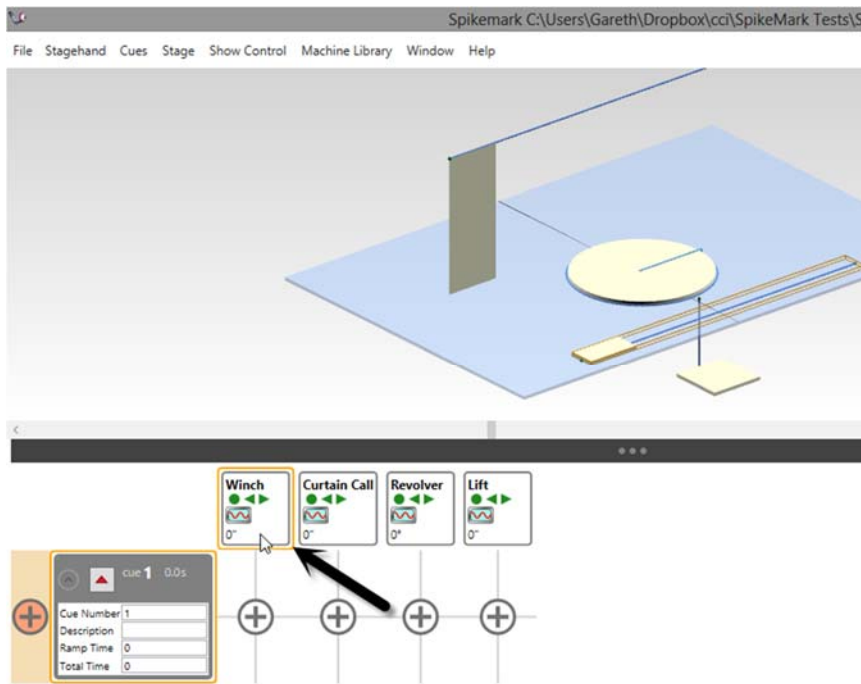

Figure 301
1. In the **Cue Grid**, select the motor to which you wish to add Spikes (Figure 301).